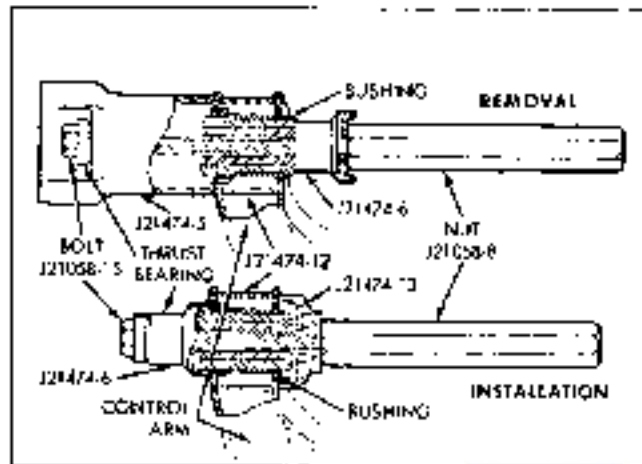

Fig. 3-20 Lower Control Arm Rear Bushing (Firebird)
2. Remove bushing in control arm by arranging tools as shown in Fig. 3-20.
3. Replace bushing in control arm by arranging tools as shown in Fig. 3-20.